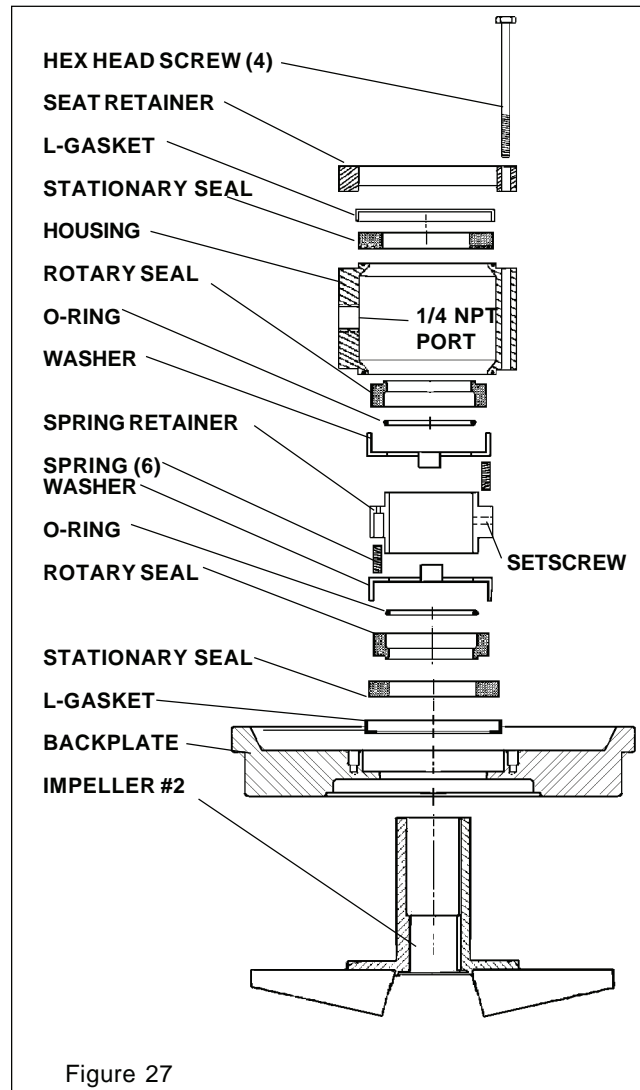
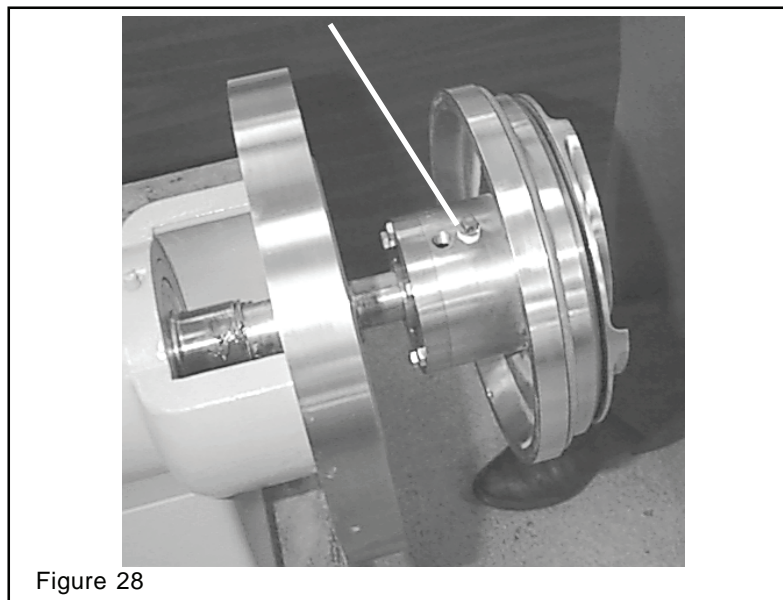

Figure 27
Figure 28
2. Install L-gaskets in backplate and seat retainer. Install stationary seals in L-gaskets. (Figure 27)
5. Place the remaining three (3) springs in the spring retainer. Slide the washer and O-ring onto the shaft against the spring retainer. Use the the seat retainer to press the O-ring into rotary seal.
6. Remove 1/4 NPT plug (Figure 28) from center port on flush housing and install an O-ring in both ends of housing. Install housing over seal assembly. Place seat retainer on housing and tighten in place with four (4) cap screws. **BE SURE TO TIGHTEN SCREWS EVENLY UNTIL FULL METAL TO METAL CONTACT IS MADE ON BACKPLATE AND SEAT RETAINER.**